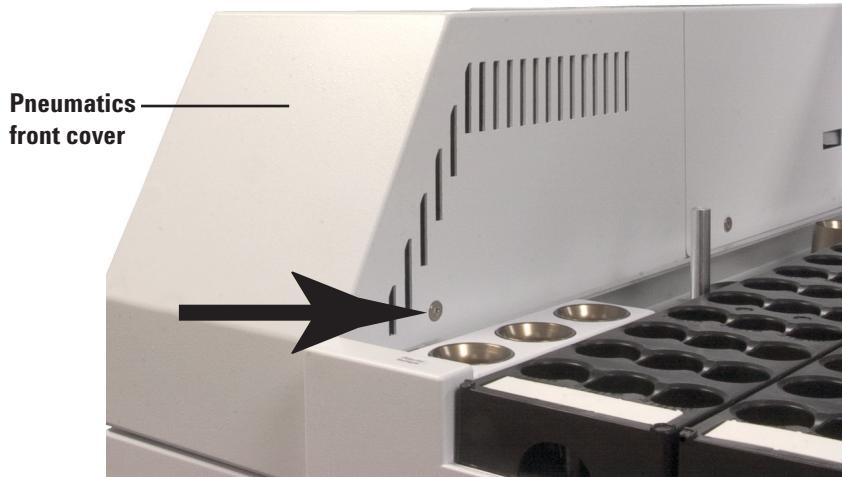

Figure 1 Remove the T-20 Torx screw from the pneumatics front cover
- 2 Remove the T-20 screw that secures the cover in place (Figure 1).